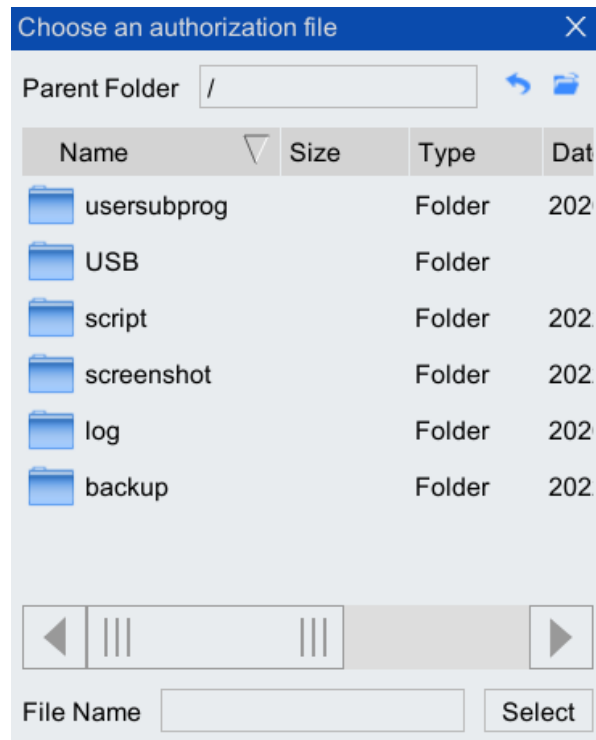

Figure 4-12 "Select Authorization File" dialog box
Step4. Click "Authorization Import" to pop up the "Choose an authorization file" dialog box shown in Figure 4-12. Find the authorization file under the USB folder and click to highlight it. Click the "Select" button to start authorization.